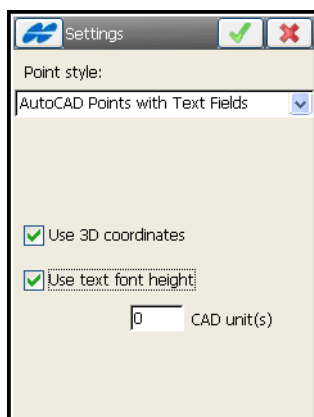

Figure 5-35. Settings
5. You may want to set the height of text fonts to show the text in AutoCAD. For this, check mark the *Use text font height* box to open a field to manually/automatically enter the desired value in CAD units. Then tap the ok  button (Figure 5-35).